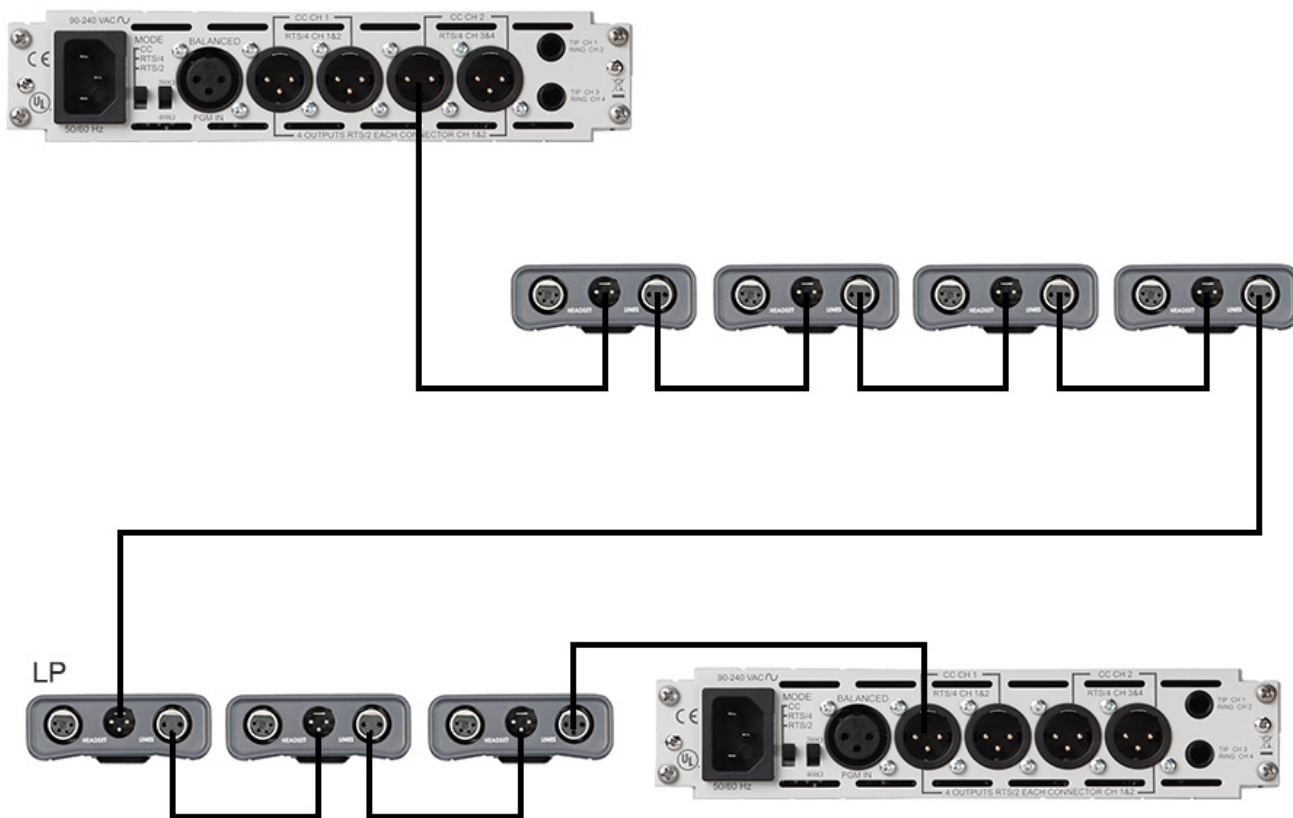
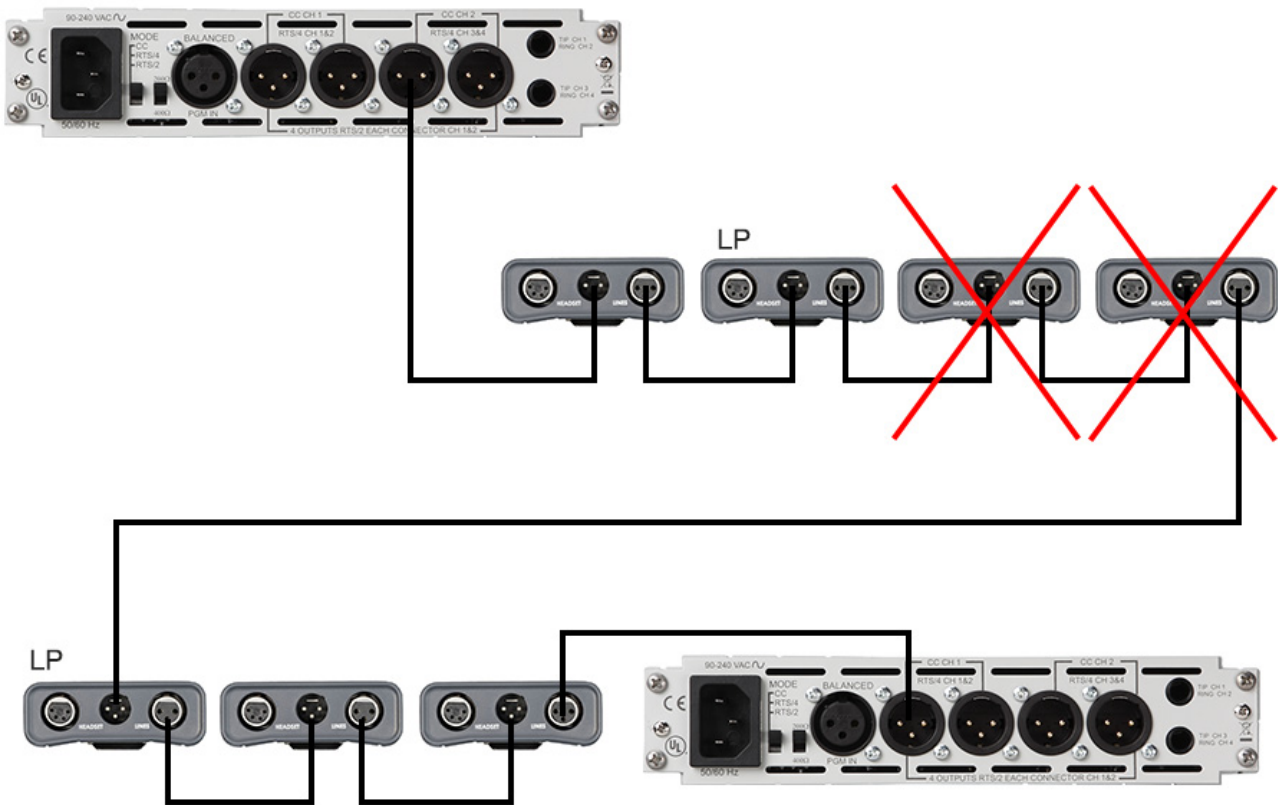

FIGURE 3. Two Power Supply System
FIGURE 4. Two Local Power Settings in a System
**IMPORTANT:** When using the local power setting only one backpack in the line should be set to LP (Local Power). Commonly, the first backpack after a long cable run is set to LP, as shown in Figure 3. In a two power supply system, if two backpacks are set to local power, then any backpacks in between those two devices do not receive power (see Figure 4).